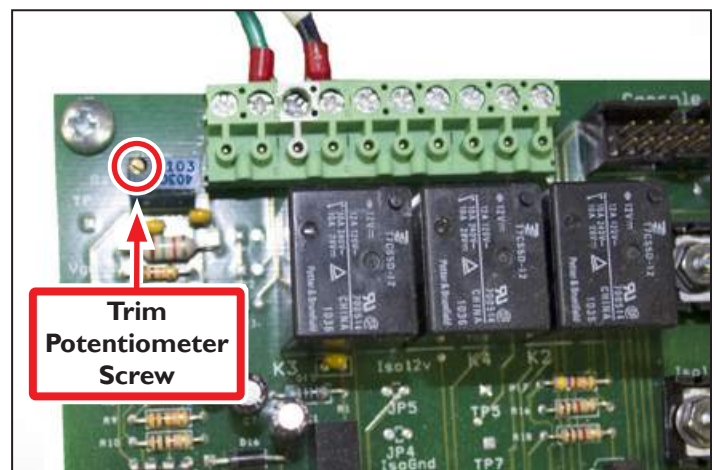

Figure 9.12
5. If the value is outside of the recommended range, use a small, flat-bladed screwdriver to adjust the Trim Potentiometer Screw on the Machine Control Board (see **Figure 9.12**) until the value on the front panel of the VFD displays within range.